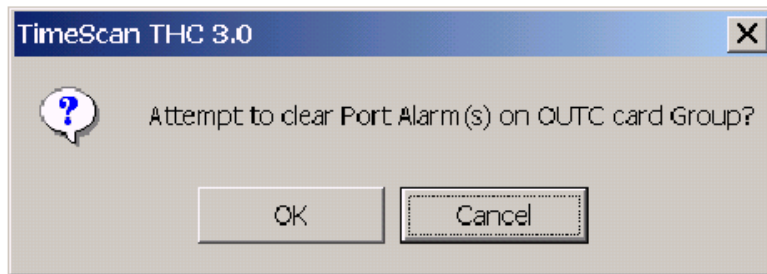

Figure 5-2. Attempt to Clear Port Alarm Query Screen
2. Select the **Service, Port Alarm Clear...** menu. A dialog box similar to Figure 5-2 appears.